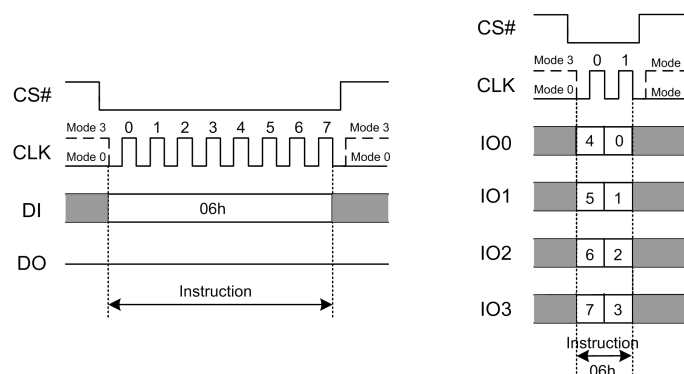

Figure 7.2 Write Enable Instruction (SPI or QPI Mode)
The Write Enable instruction (Figure 7.2) sets the Write Enable Latch (WEL) bit in the Status Register to a 1. The WEL bit must be set prior to every Page Program, Sector Erase, Block Erase, Chip Erase and Write Status Register instruction. The Write Enable instruction is entered by driving CS# low, shifting the instruction code “06h” into the Data Input (DI) pin on the rising edge of CLK, and then driving CS# high.